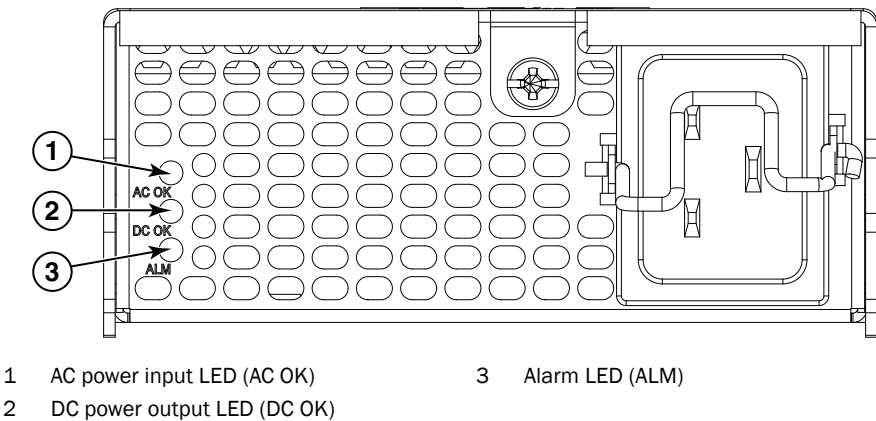

FIGURE 17 Power supply
1. Check the alarm LED labeled ALM on the power supply (refer to Figure 17). The LED patterns may temporarily change during POST and other diagnostic tests; for information about how to interpret the LED patterns, refer to Table 14. The Brocade VDX 8770-4 can have up to four power supplies. Be sure to check each module.
Figure 17 shows a power supply.